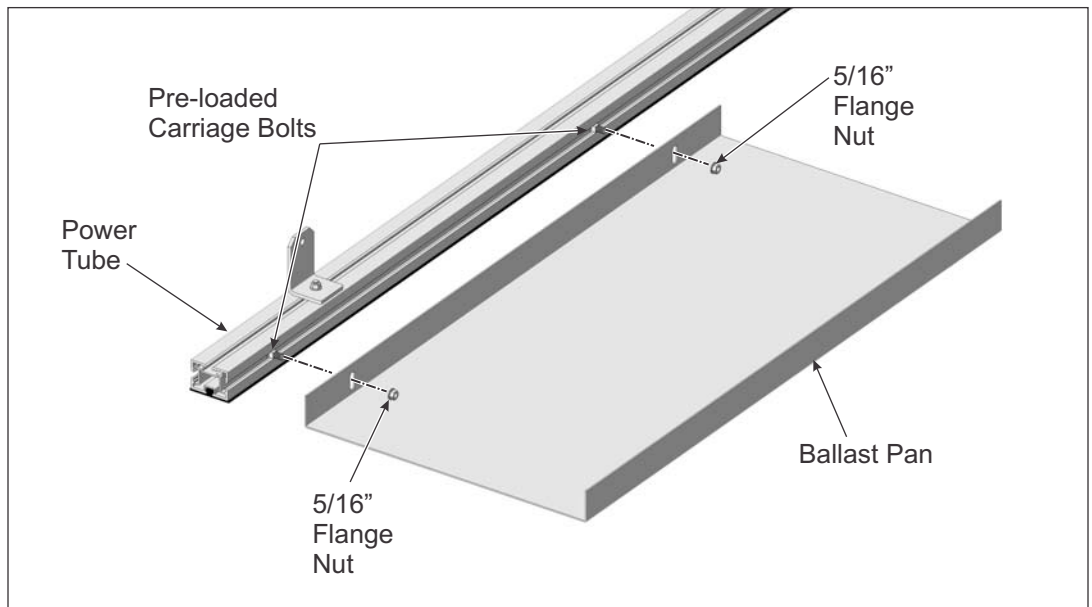

Figure 1-2: Attaching the Ballast Pans to the Power Tube
- B. Position the Ballast Pan to align with the carriage bolts. Thread on the 5/16" flange nuts and finger tighten for now. (See Figure 1-2)